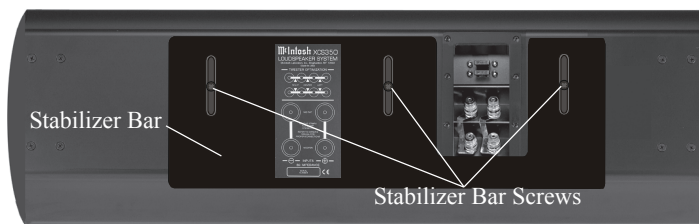

Figure 26
1. Using the supplied Allen Wrench, remove the three screws securing the Stabilizer Bar to the back of the XCS350. Refer to figure 26. Replace the just removed center screw with a supplied one of the same type, but